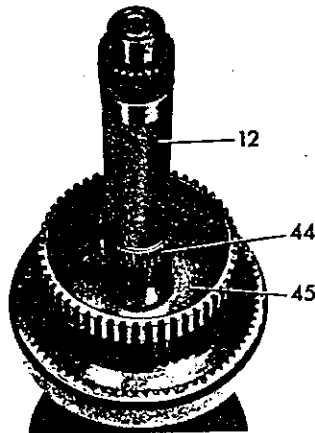

Fig. 8
10 Remove needle bearing (44) and thrust washer (45) from intermediate shaft (12) (Fig. 8).
- 20** Place intermediate shaft (12) on assembly fixture, then insert thrust washer (45) and needle bearing (44) with some grease (Fig. 8).